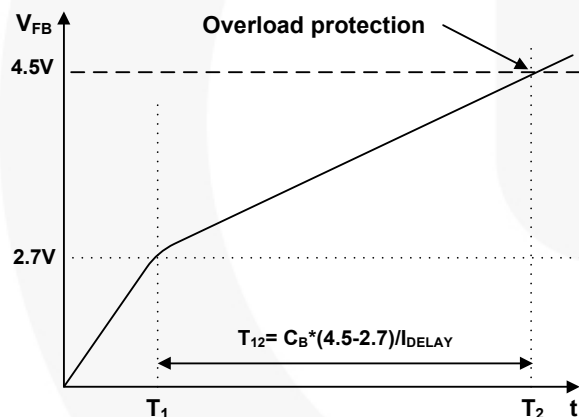

Figure 18. Overload Protection
3.1 Overload Protection (OLP): Overload is defined as the load current exceeding its normal level due to an unexpected abnormal event. In this situation, the protection circuit should trigger to protect the SMPS. However, even when the SMPS is in the normal operation, the overload protection circuit can be triggered during the load transition. To avoid this undesired operation, the overload protection circuit is designed to trigger after a specified time to determine whether the situation is transient or a true overload. Because of the pulse-by-pulse current limit capability, the maximum peak current through the senseFET is limited and, therefore, the maximum input power is restricted with a given input voltage. If the output consumes more than this maximum power, the output voltage (V_O) decreases below the set voltage. This reduces the current through the opto-coupler LED, which also reduces the opto-coupler transistor current, thus increasing the feedback voltage (V_{FB}). If V_{FB} exceeds 2.7V, D1 is blocked and the 5 μ A current source starts to charge C_B slowly up to V_{CC} . In this condition, V_{FB} continues increasing until it reaches 4.5V, when the switching operation is terminated, as shown in Figure 18. The delay time for shutdown is the time required to charge C_B from 2.7V to 4.5V with 5 μ A. In general, a 10 ~ 50ms delay is typical for most applications. This protection is implemented in auto-restart mode.